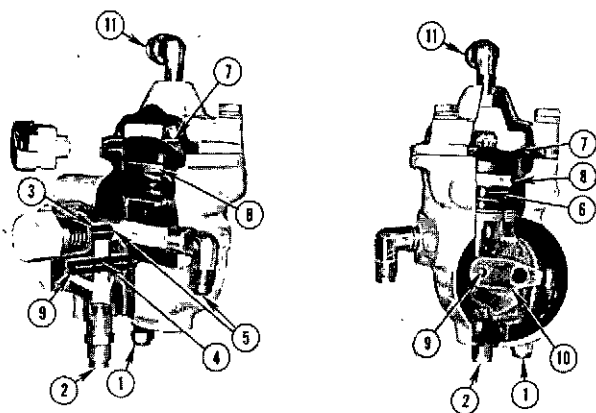

Fig. 5-10, (F-5244). Aneroid cutaway
The aneroid control, Fig. 5-10, provides a fuel by-pass system that responds to air manifold pressure and is used on turbocharged engines for close control of exhaust smoke.
1. Fuel from the fuel pump enters the aneroid and is directed to starting check valve area (5, Fig. 5-10).
2. The starting check valve (3) prevents aneroid from by-passing fuel at engine cranking speeds. For speeds above cranking, fuel pressure forces the check valve open, allowing fuel to flow to valve port (4) of shaft (9).
3. Shaft (9) and its bore form a fuel by-pass valve. This shaft and bore allows passage or restricts fuel flow in a similar manner as throttle shaft and sleeve in PT fuel pump.
4. The shaft and sleeve are by-passing fuel when arm (10) of lever is resting against adjusting screw (1). The amount of fuel by-passed is adjusted by this screw, which protrudes from bottom of aneroid.
5. The lever arm connected to piston (8) by actuating shaft (6), rotates shaft; closing valve port. The lever is rotated by action of air intake manifold pressure (11) against piston and diaphragm (7), moving actuating shaft downward against resisting spring force, Fig. 5-10.